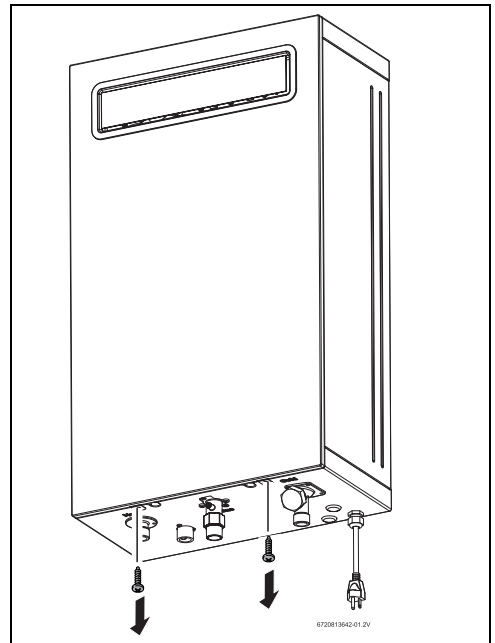

Fig. 3 Loosen two Phillips head screws
- ▶ Loosen two Phillips head screws located on bottom of cover, fig. 3.